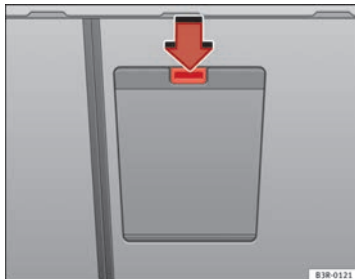

Fig. 115 Detailed view of the rear of the rear backrest: Ski bag cover
- Press the release catch for the ski bag cover (arrow) and fold the cover downwards ⇒ Fig. 115.